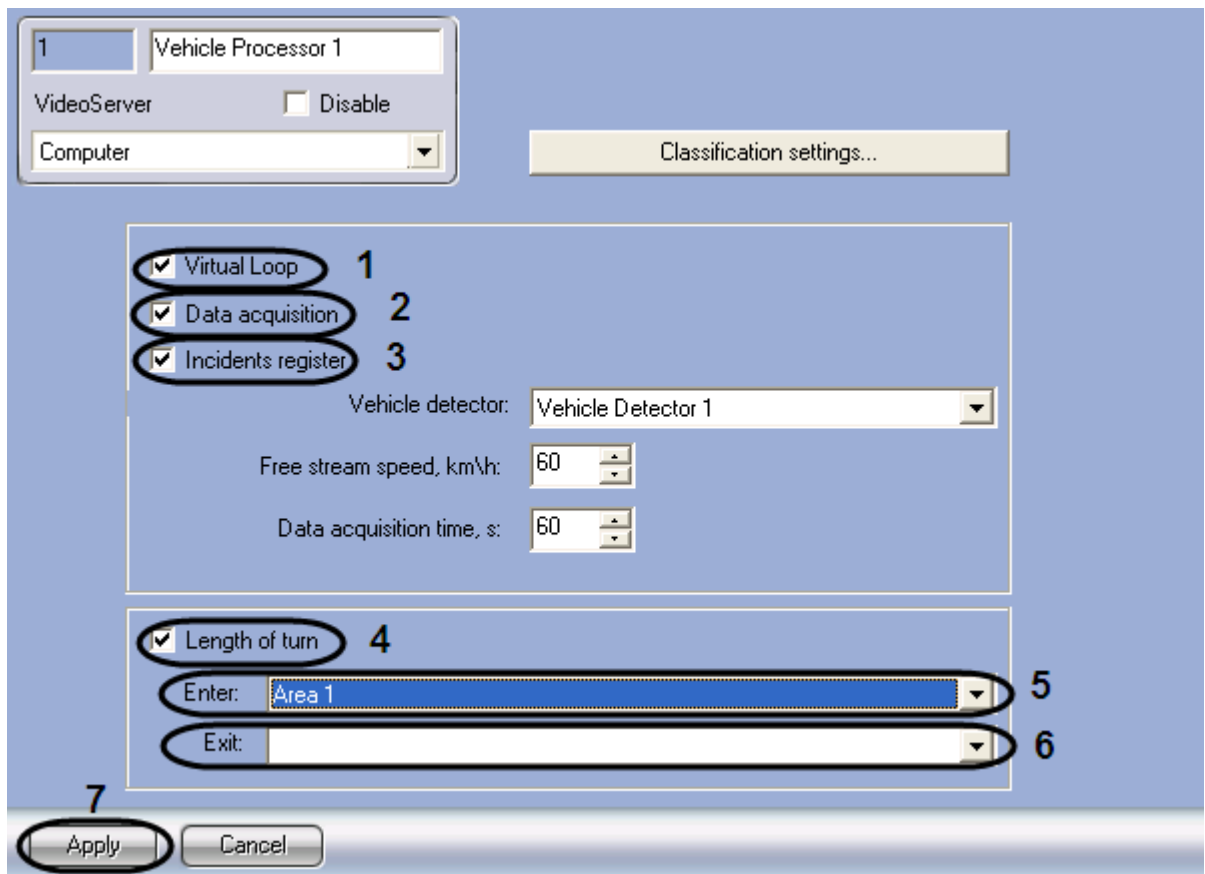

Fig. 7.6-10 Selecting the Vehicle processor operation mode
1. Go to the Vehicle processor settings panel (Fig. 7.6-10)
2. To enable the mode of imitating the virtual loop set the checkbox Virtual loop (Fig. 7.6-10, 1). The result of this module operation is retranslating the events of vehicles passing in and out from the detection zone, registered by Vehicle detector module. On default the events are retranslated without storing in the Vehicle processor database. To enable storing the events to the database, one should perform step 3.
3. To enable the mode of gathering and storing vehicles information to the Vehicle processor database set the checkbox Data acquisition (Fig. 7.6-10, 2)
4. To enable the fixation mode and storing the incidents in the vehicle to the Vehicle processor database set the checkbox Incidents register (Fig. 7.6-10, 3)
5. To enable the mode of vehicles turn's length calculation set the checkbox Length of turn. The result of this mode operation is the events registrations with data concerning the length of vehicles' turn. On default events are registered without storing in the Vehicle processor database (Fig. 7.6-10, 4). To enable storing the events to the database, one should perform step 3.
6. From the dropdown list Enter select the Area object, corresponding to the entrance area to the detection zone where the Length of turn is calculated (Fig. 7.6-10, 5)
7. From the dropdown list Exit select the Area object, corresponding to the exit area from the detection zone where the Length of turn is calculated) (Fig. 7.6-10, 6)
8. Click Apply to save the changes (Fig. 7.6-10, 7)